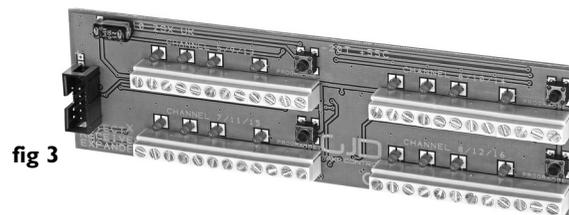

fig 3
1) To install a module, carefully remove the 4 channel expansion module (**fig 3**) from its protective wrapper.
GJD 393 - 4 Channel Expander Modules (**fig 3**)